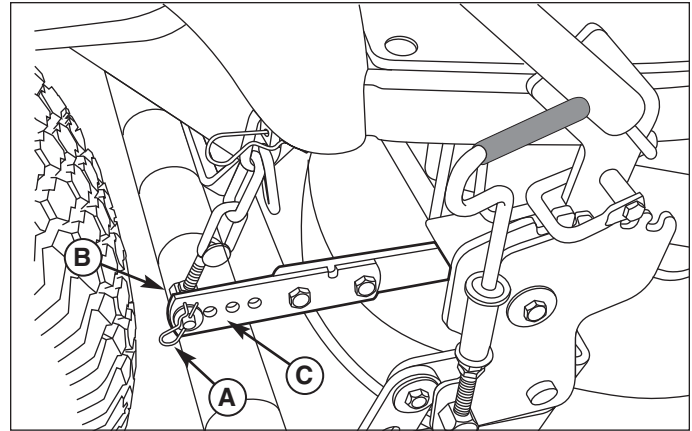

Figure 7. Mower Deck Removal and Installation (Viewed from underneath right side of tractor)
4. Disconnect the hair pins (A, Figure 7) from the trunnions (B) on both sides of the mower deck. Remove trunnions (B) from mower deck lift arms (C). Re-install the hair pins (A) to prevent loss.
6. Connect the trunions (B, Figure 7) to mower deck lift arms (C) secure with hair pins (A).